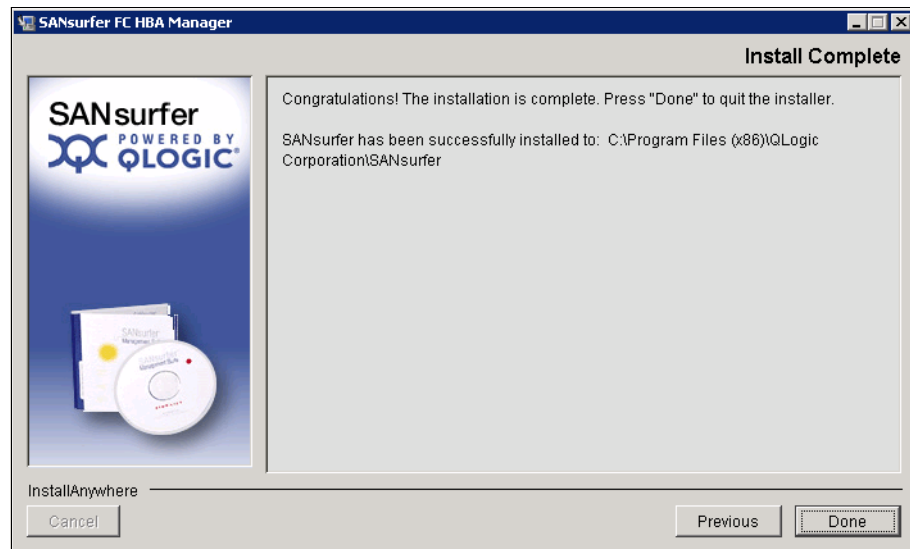

Figure 7-70 Installation completed
9. In the Install Complete panel (Figure 7-70), click **Done**.